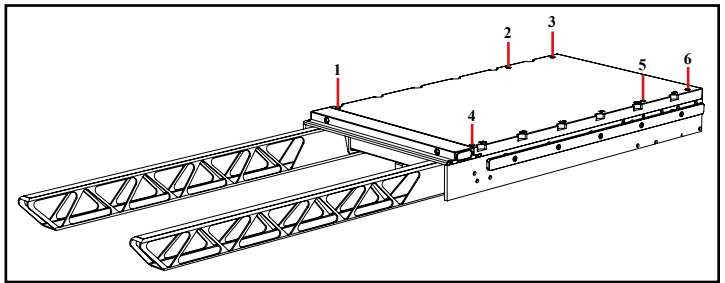

Fig. 33
1. Before installation of the kVue, remove the back panel, by removing the 6 screws (Fig 33). Place screws aside for later use.